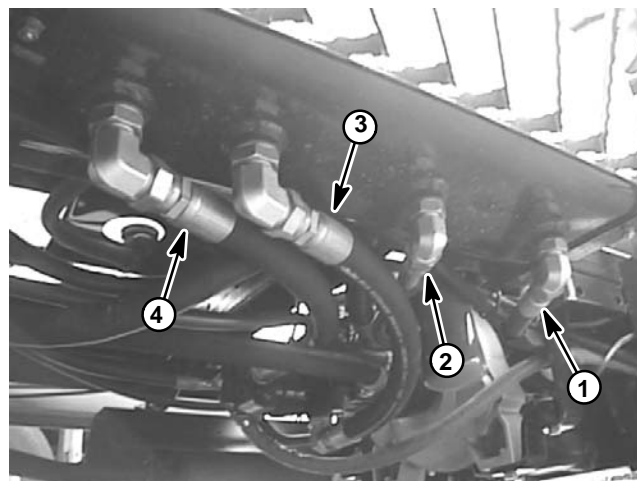

Figure 55
2. Lubricate new o-rings and reconnect hydraulic hoses to reservoir (Fig. 55).